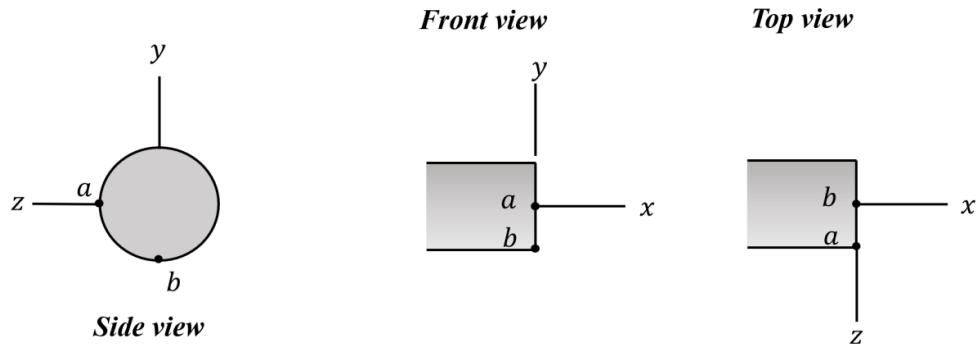

Figure 4
- (b) Show the stress distribution due to each internal resultant on the appropriate view of the cross B (i.e., side view, front view or top view) (see Fig. 4).